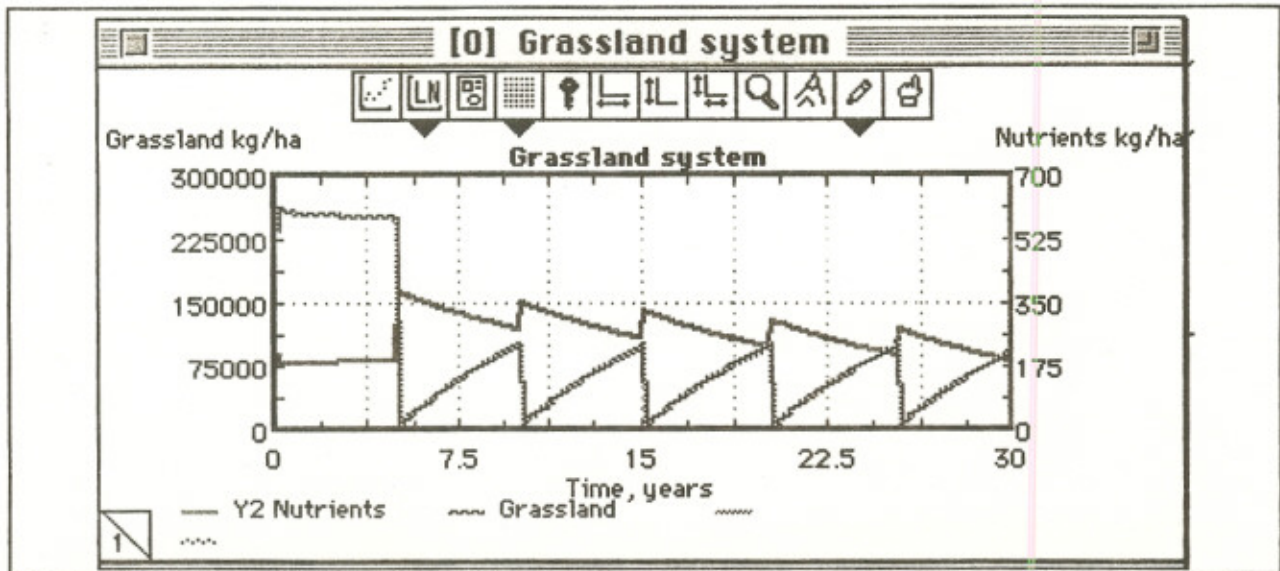

Figure 28. Simulation graph of fire every five years.
2. Run the simulation. If you used 5 years in the Fire sources dialog, your simulation should look like Figure 28.